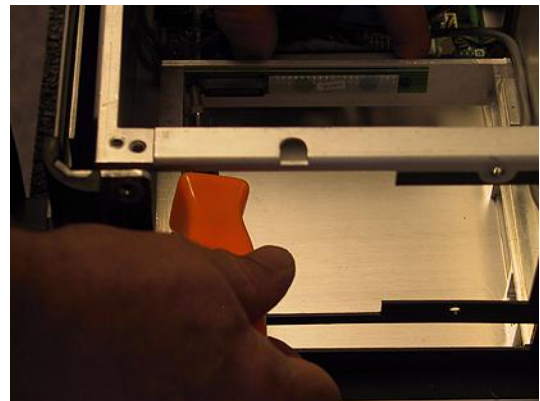

Figure 5-73
- 6) Use a Philips #1 screwdriver to remove the two screws attaching the CD/DVD backplane to the main chassis as illustrated in Figure 5-73